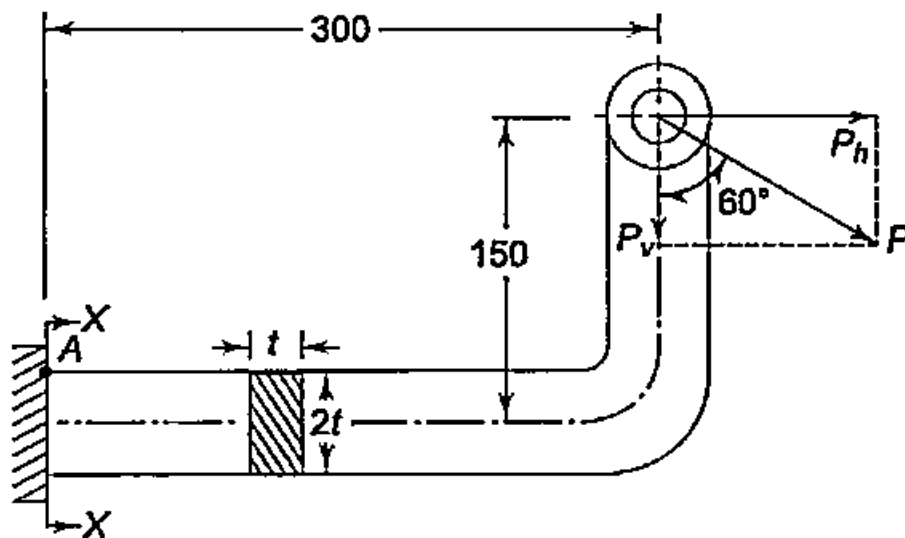

Fig 1 : Wall Bracket
- (b) A wall bracket with a rectangular cross-section is shown in Fig.1: Wall Bracket. The depth of the cross-section is twice of the width. The force P acting on the bracket at 60° to the vertical is 5kN. The material of the bracket is grey cast iron FG 200 and the factor of safety is 3.5. Determine the dimensions of the cross-section of the bracket. Assume maximum normal stress theory of failure.